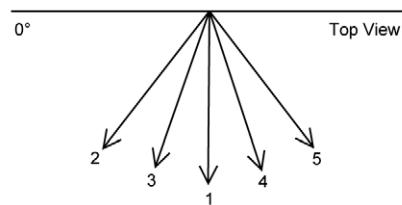

Figure 2
- Manual horizontal airflow direction can be set using remote control; the angles of the vane are as stated below and the positions of the vane are as Figure 2 above.